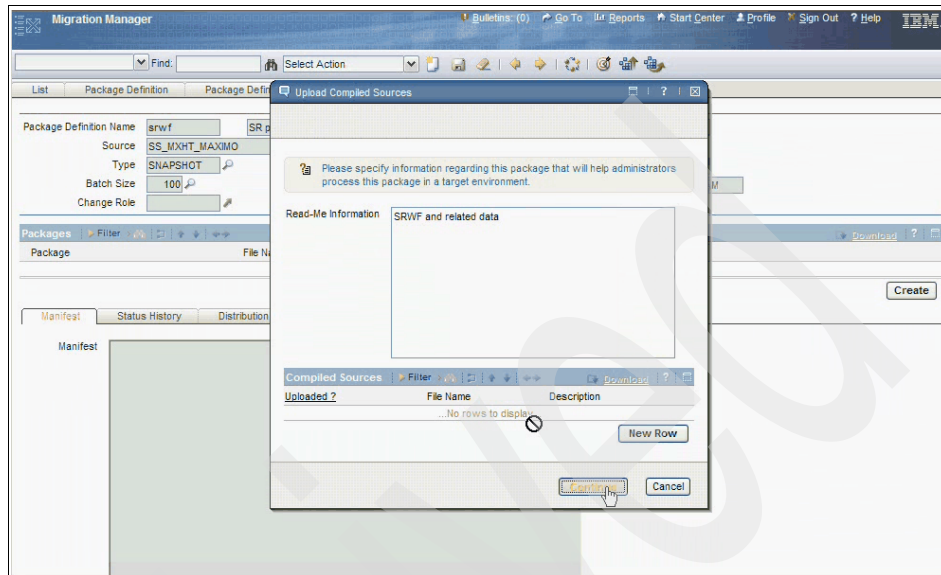

Figure 8-35 Package creation information
2. We first enter general information about the package in the dialog box, as shown in Figure 8-35.